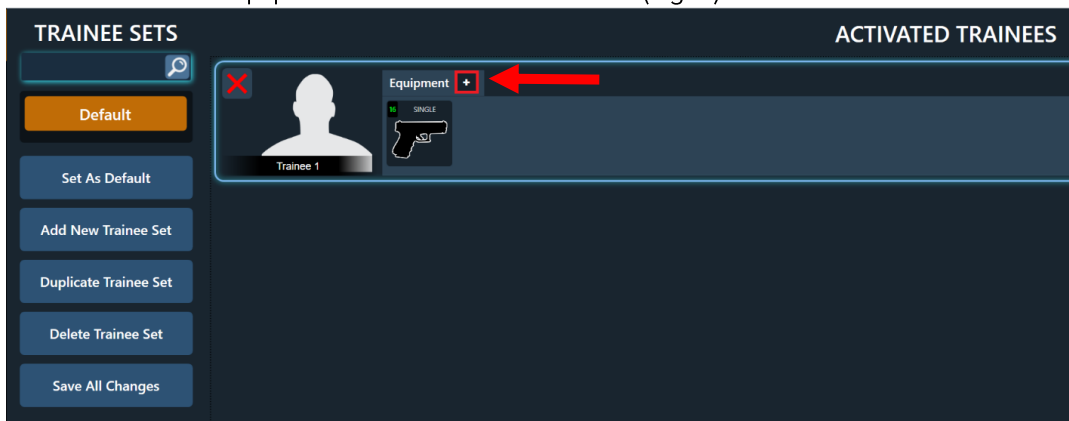

Fig. 9
- b. Click the “Add Equipment” button as shown below (Fig. 9)